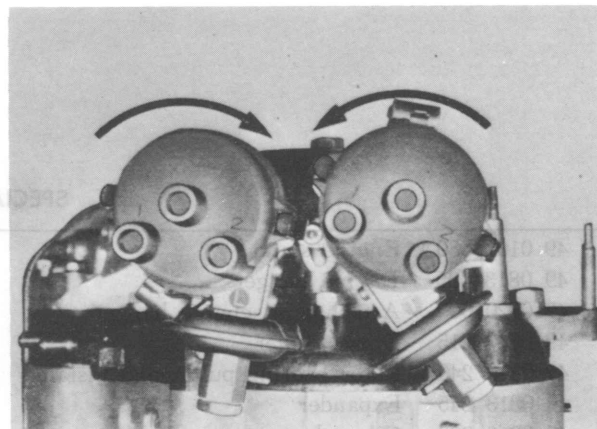

Fig. 1-118 Adjusting ignition timing
5. Turn the distributors as shown in Fig. 1-118, until the contact point starts to open. Then tighten the lockplate.